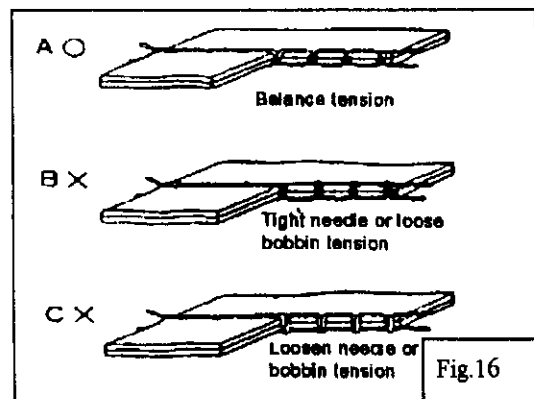

Fig.16
9) Balance of thread tension (Fig.16)